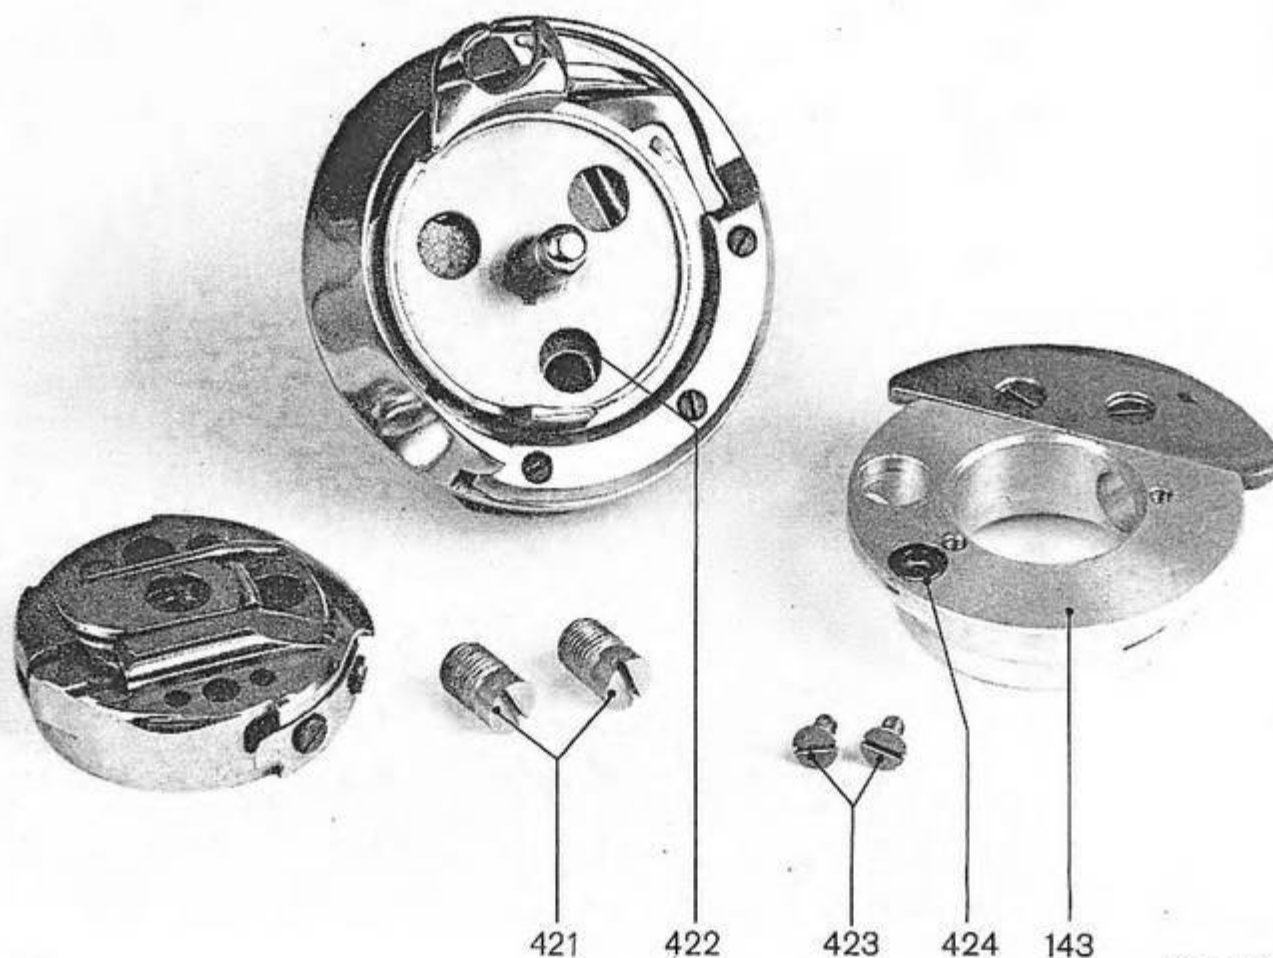

Fig. 100
1. Remove from the hook its two fastening screws 421 (fig. 100).